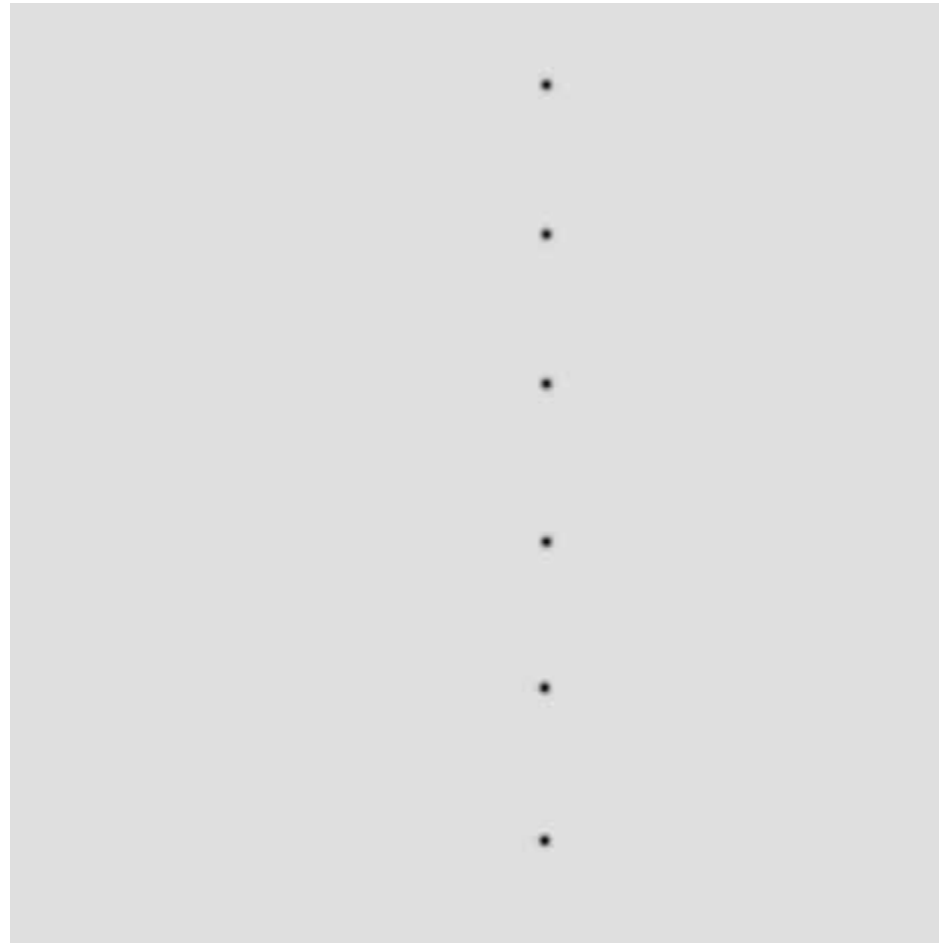

Figure 9 Regular Toner Contamination In the Process Direction (Spots, Streaks, Bands, etc.)
- Regular Toner Contamination in the Process Direction (Spots, Streaks, Bands etc.) (Figure 9)